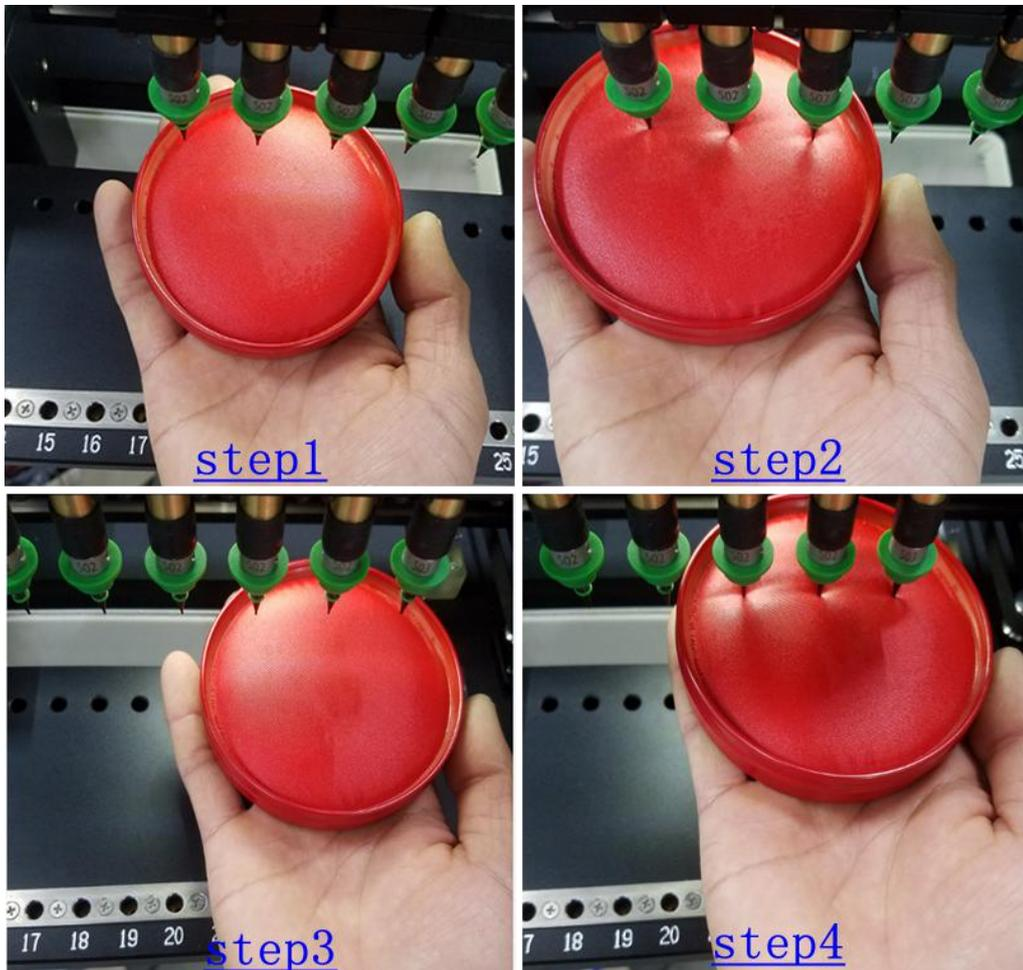

Figure 5-11
⑤ After setting 8 nozzles' height, click "Start"  ", appearing the prompt box, click "yes (y)" after reading.
⑥ Appearing the prompt box again, after painting the 8 nozzles inkpad, click "Confirming" (Note: Do not click "Confirming" before painting the inkpad), shown as Figure 5-11. 8 nozzles will dot on the white paper successively. Ready to paint the inkpad again, total 4 times, total dot four rows. be careful when operating.